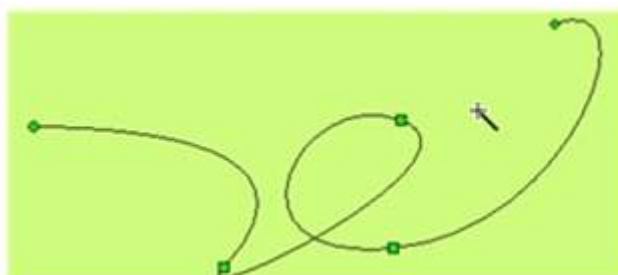

Figure 4-34: Drawing a curve connection line
- At this moment, the mouse shape is still a cross. Move the mouse to another position where you want to set the end of the curve/arc, press down the left key of the mouse and drag the mouse to move in the screen. Then, release the mouse. Now the mouse shape is still a cross. Repeat these operations and a curve connection line can be drawn. After a desired curve connection line is drawn, right click the mouse to complete. See Figure 4-34.
- As shown in Figure 4-34, in the curve drawn the starting point is a green dot, the ending point is a diamond dot, and the middle nodes are square dots. This indicates that a curve has been preliminarily drawn. Move the mouse to the starting point or the ending point, a dotted line will appear. The ending point of the dotted line is a square dot. Move the mouse to this dot, and then the mouse will become , press down the left key of the mouse, move it to an appropriate position, and release it to get desired radian. In addition, you can also move the starting point or the ending point to an appropriate position.